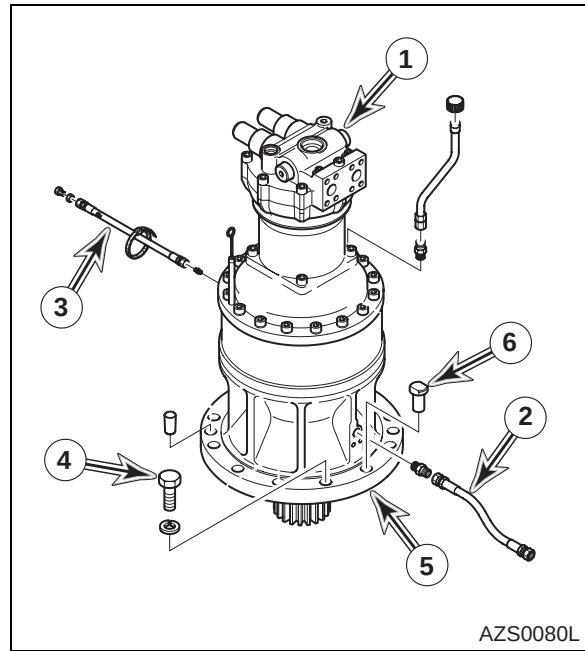

Figure 16 SOLAR 470LC-V
2. Make sure two alignment pins (6, Figure 16) are installed in flange of swing reduction gearbox (5).
3. Using a suitable lifting device, sling swing motor (1, Figure 16) and position swing motor and reduction gearbox (5) as an assembly on unit.
4. Install twenty-two bolts and washers (4, Figure 16) to secure swing reduction gearbox (5) to frame.
5. Connect tube (2, Figure 16) to reduction gear box (5). (Solar 470LC-V)
6. Connect grease lubrication line (3, Figure 16) from reduction gearbox (5).
7. Connect hoses as tagged during removal to swing motor (1, Figure 16).